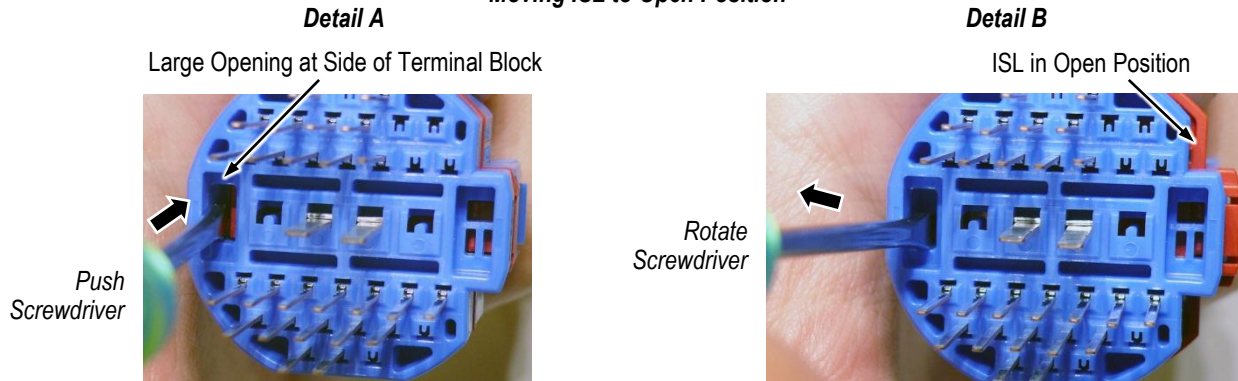

Figure 10
- b. Insert the tip of the screwdriver into the large opening at the side of the terminal block. See Figure 10, Detail A.
- c. Rotate the screwdriver toward the outside of the terminal block until the ISL moves to the open position. There will be an audible click when the ISL is in the open position. See Figure 10, Detail B.
If the terminal is not removing easily, verify that the ISL is in the open position as shown in Figure 10.